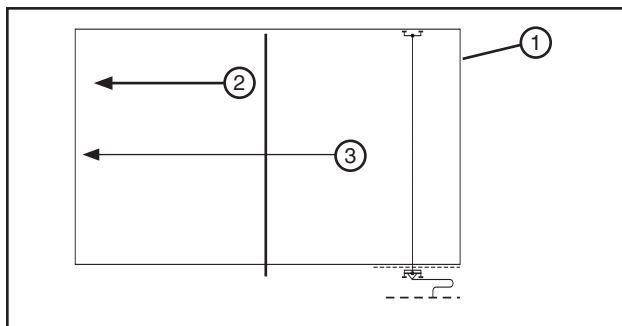

Figure 38-4 1. Field
2. Reverse the system direction, set the percentage timer, and run the system wet back to the original end of the field. See figure 38-4.